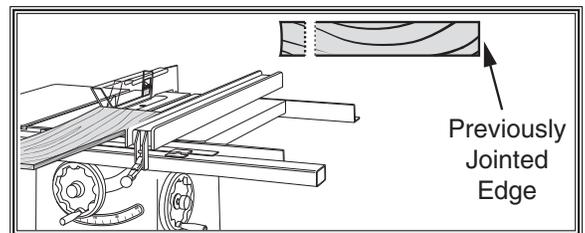

Figure 27. Rip cut on a table saw.
4. **Rip Cut on a Table Saw:** The jointed edge of the workpiece is placed against a table saw fence and the opposite edge cut off (see Figure 27).